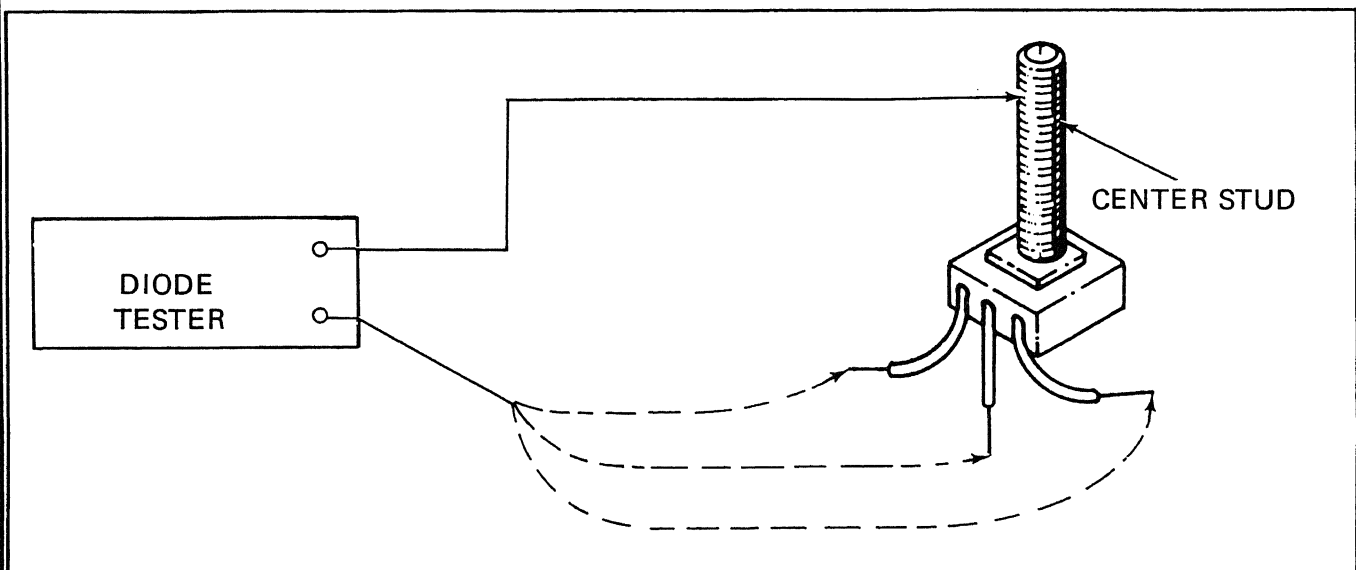

Figure 5-28.20. Testing Field Diode Assembly
- (1) Field diode. Using a diode tester or 12 volt DC test lamp, check for continuity from each lead separately to the center metal contact stud.
- (a) Connect one lead of the tester to the center stud then test each of the three leads individually. Continuity should be observed in one direction (polarity) only, and all diodes should test the same, figure 5-28.20.